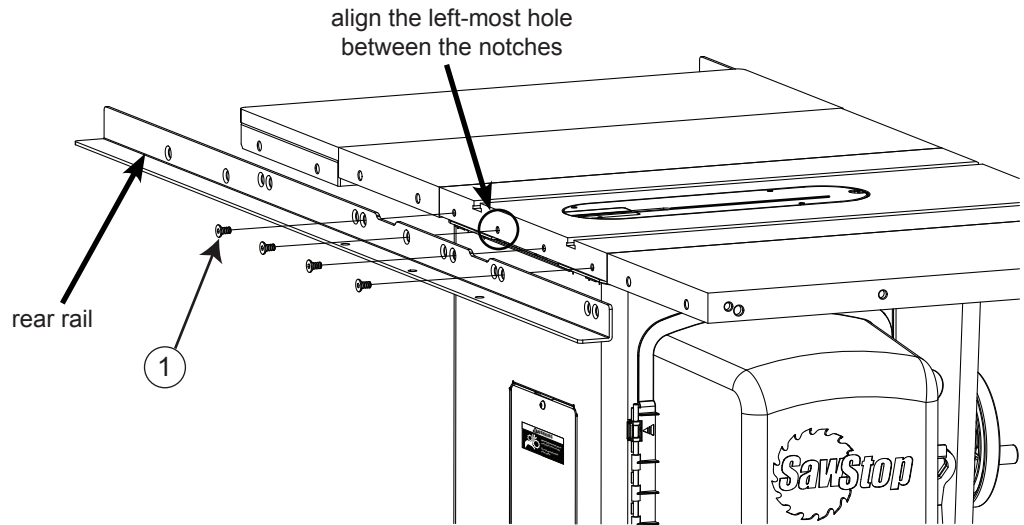

Fig. 6
6. Take the rear rail (the smaller of the two rails) and align it to the rear edge of your saw by centering the notches in the rail with the two miter slots in the table and aligning the left-most hole between the notches with the corresponding hole in the rear edge of the table. There are three holes in the rail between the notches, one solitary hole and two holes paired together, and the left-most hole is the solitary hole. Not all of the holes are used to mount the rail to your saw; different holes are used for different saws. Aligning the left-most hole aligns all the other holes used in mounting the rear rail to your saw. When the holes are aligned, mount the rear rail to the saw by taking four M8x1.25x16 flat head socket bolts and threading one into each of the four threaded holes in the rear edge of the main table (see Fig. 6). Tighten the four bolts using a 5 mm hex key.